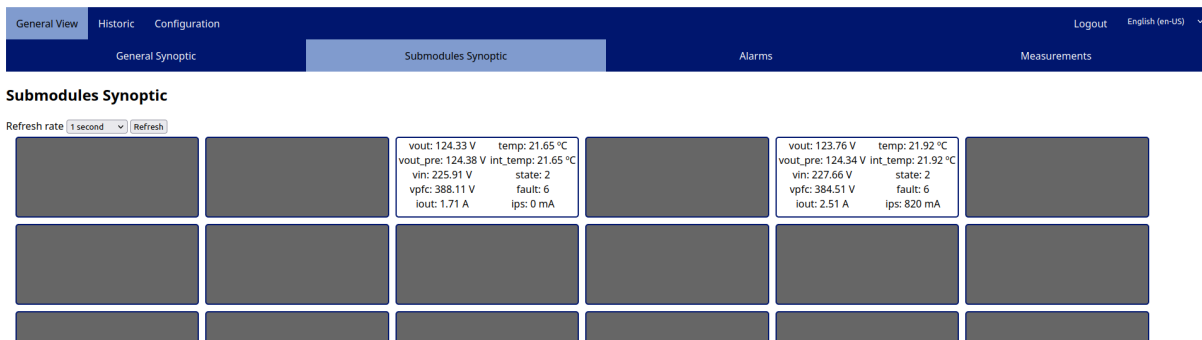

Figure 36 - Web - Overview - Synoptic sub-modules
- Synoptic sub-modules (Figure 36): Displays the real-time status and variables of each sub-module connected to the system.